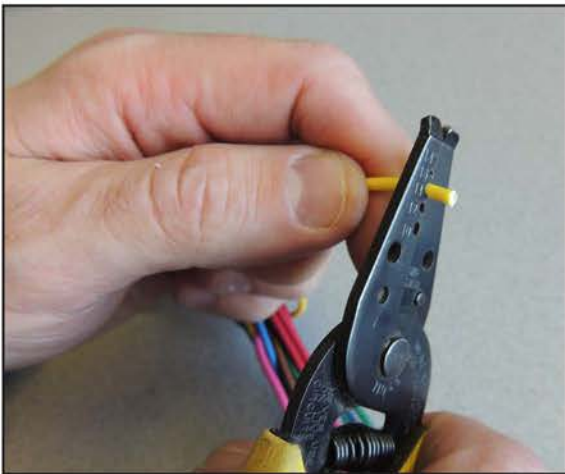

Figure 4: Use a wire stripper to remove 0.25" of the wire cover to expose the copper wires.
7. Use a wire stripper to strip off 0.25" of the wire covering to expose the copper wires (Figure 4).